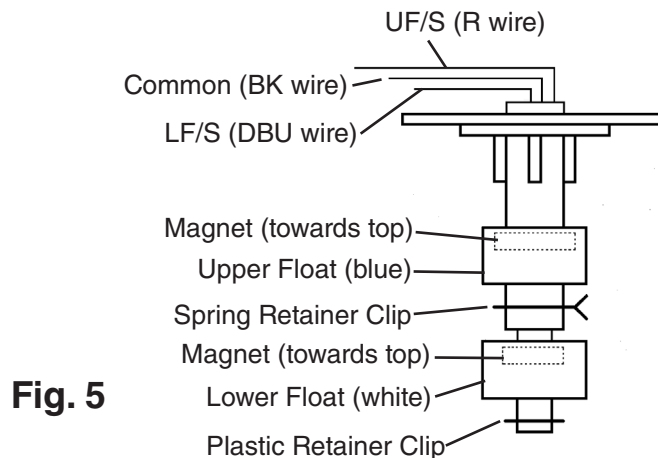

Fig. 5
- 5) While not necessary, the floats can be removed from the shaft during cleaning. If you remove them, note that the blue float is on top (UF/S) and the white float is on bottom (LF/S). See Fig. 5. The floats must be installed with the magnets inside them towards the top of the switch. Installing the floats upside down will affect the timing of F/S operation.